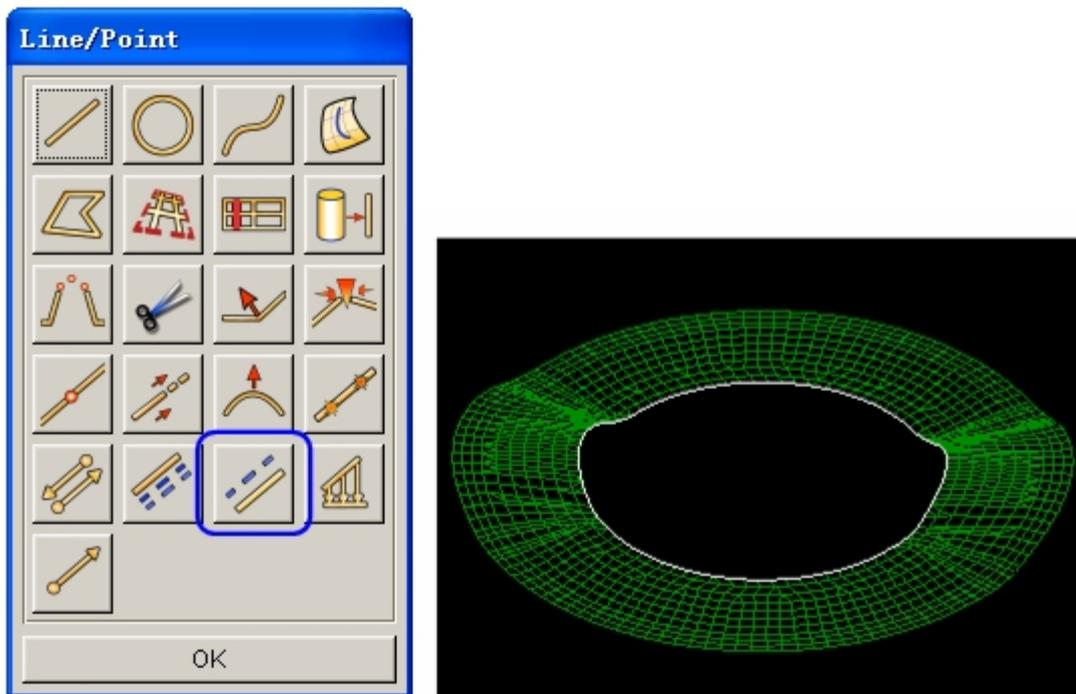

Figure 7.30 Offset a curve
9. From the menu bar, select **Preprocess**→**Line/Point** to display the LINE/POINT dialog box illustrated in Figure 7.30. Then, click the **Offset** icon.
10. Next, use your mouse cursor to select the line highlighted in Figure 7.30. Then, click **Ok** button to define the coordinate system, following by clicking **Yes** button to accept the default **LCS**.
16. Click on **Input Lns** button to define the boundary of mask using functions provided in SELECT LINE dialog box. Select the highlighted line illustrated in Figure 7.30, following by clicking **OK** button to return to process definition interface.